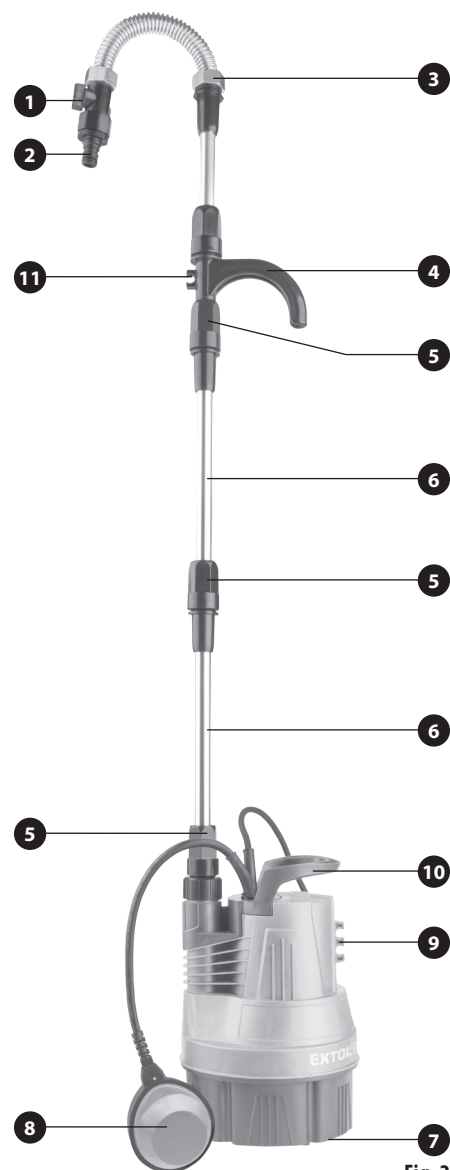
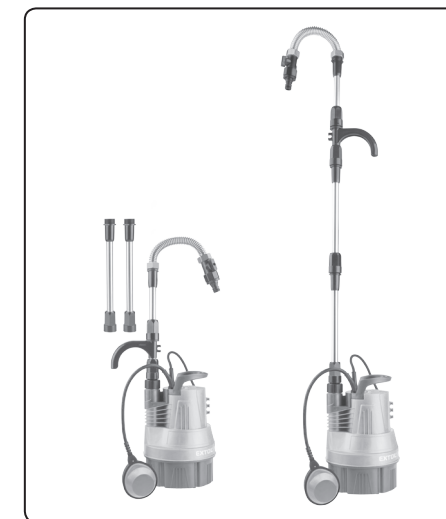

Fig. 2
Fig. 3
- Adjust the water outflow height for the connection of the hose to the pump based on the height of the water vessel by installing one or two tube interlinks as shown in fig. 3 so that it is possible to hang the pump using the hook (fig. 2, position 4) on the rim of the water vessel.